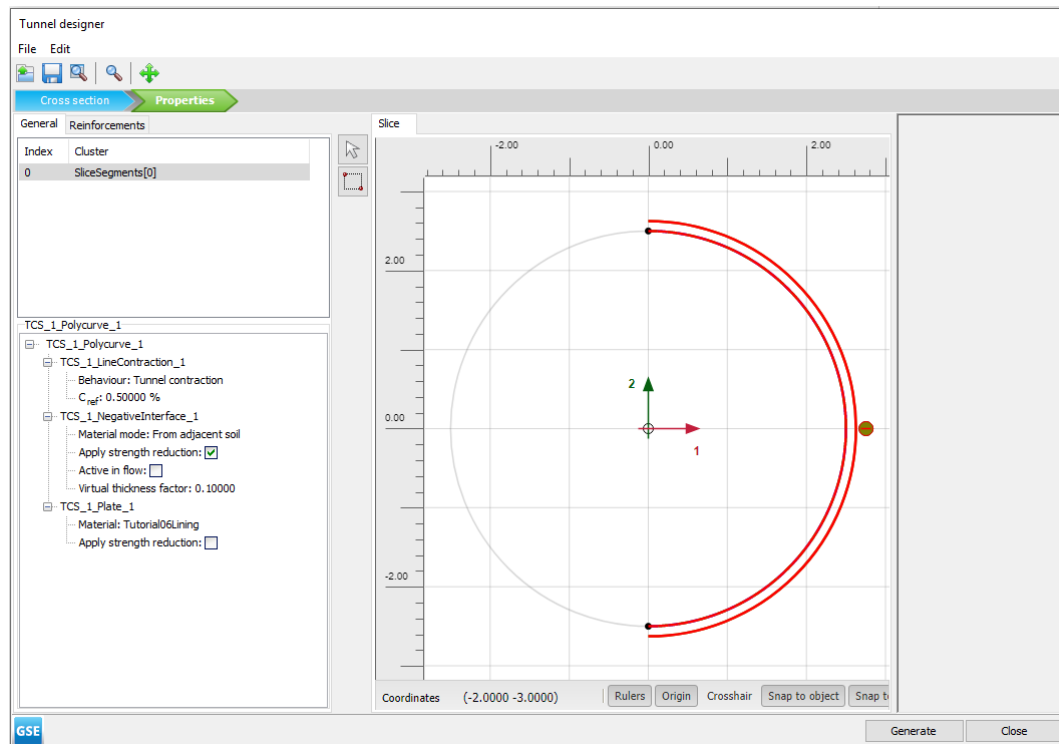

Figure 60: Tunnel model in the **Properties** tab
11. Right-click the segment in the display area and select the **Create line contraction** option in the appearing menu. In the polycurve properties specify a value of 0.5% for C_{ref} . The tunnel model is shown in Figure 60 (on page 81).